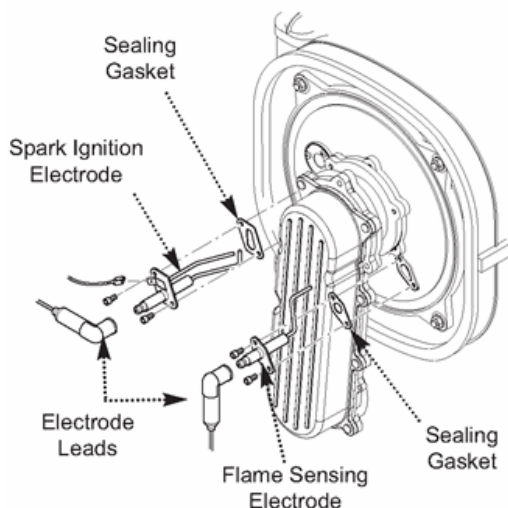

Fig. 49
2. Check the condition of the sealing gaskets and replace if necessary. Reassemble in reverse order (Fig. 49).